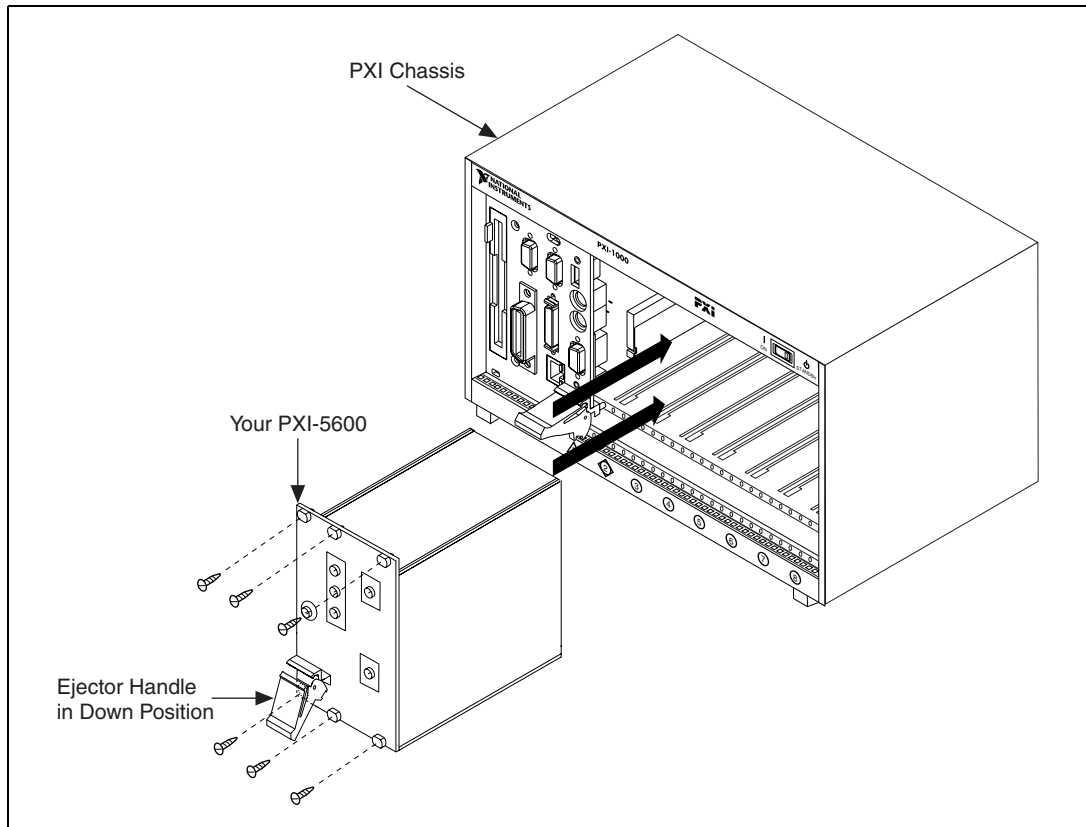

Figure 1-2. PXI-5600 RF Downconverter Module Installation
2. Install your PXI-5600 RF downconverter module as shown in Figure 1-2.